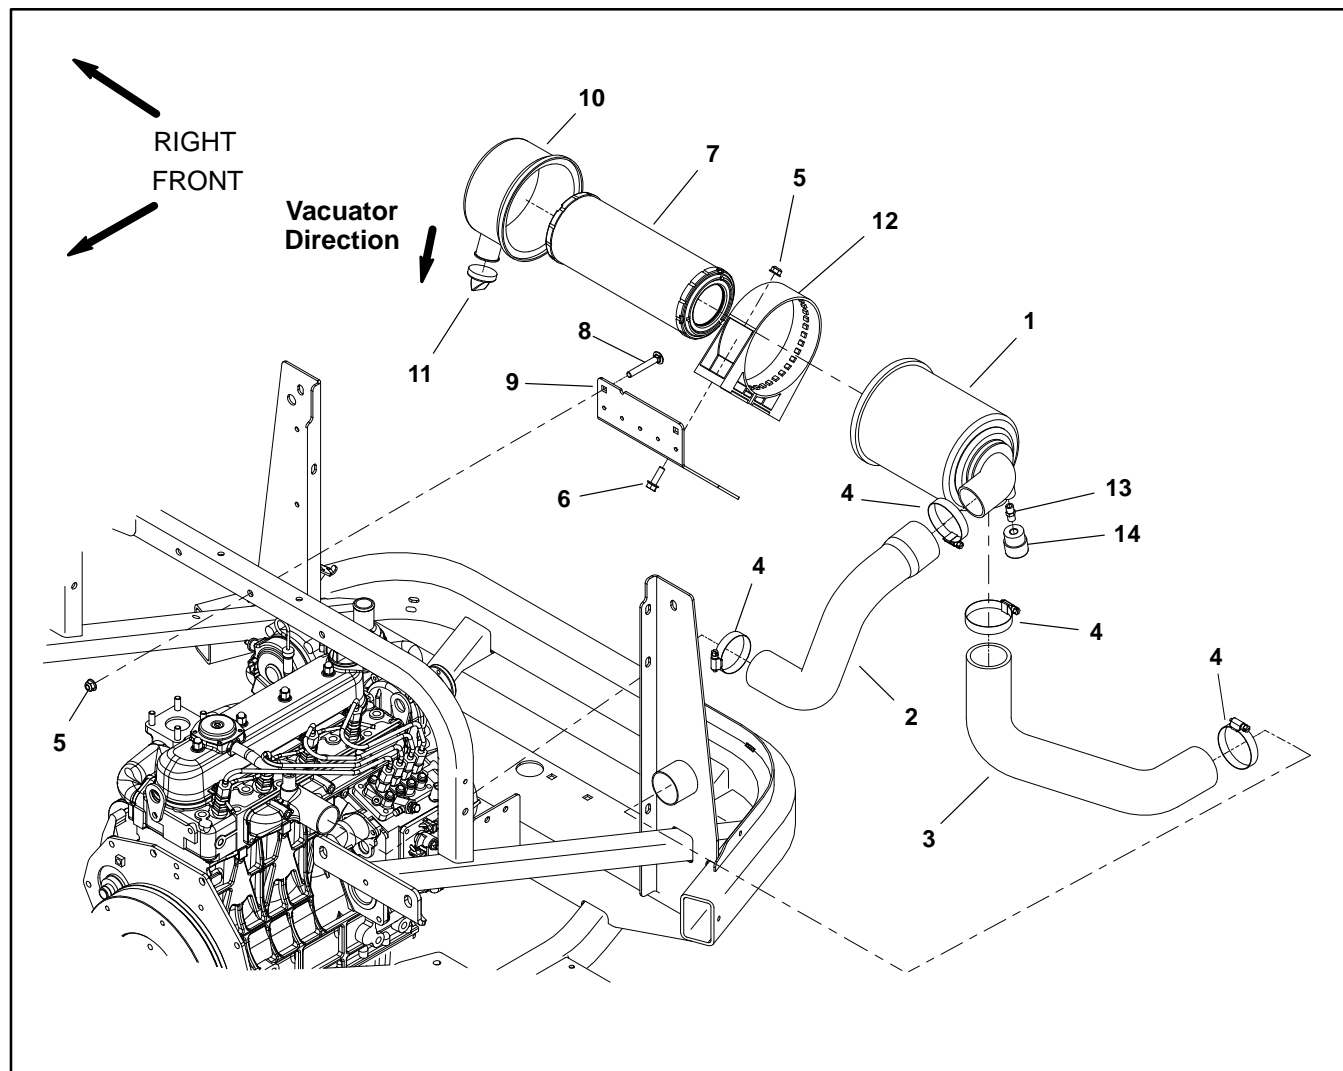

Figure 2
Removal (Fig. 2)
3. Remove air cleaner components as needed using Figure 2 as a guide.
Installation (Fig. 2)
1. Assemble air cleaner system using Figure 2 as a guide.
- B. Make sure that air intake hose (item 2) has clearance around it at all points after air cleaner installation is completed.